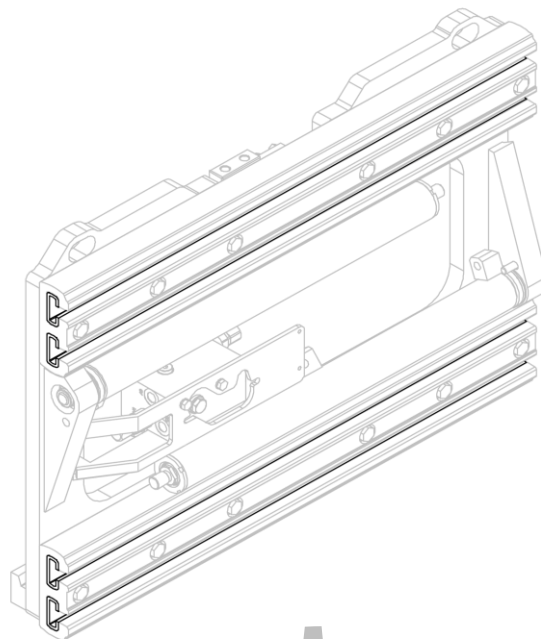
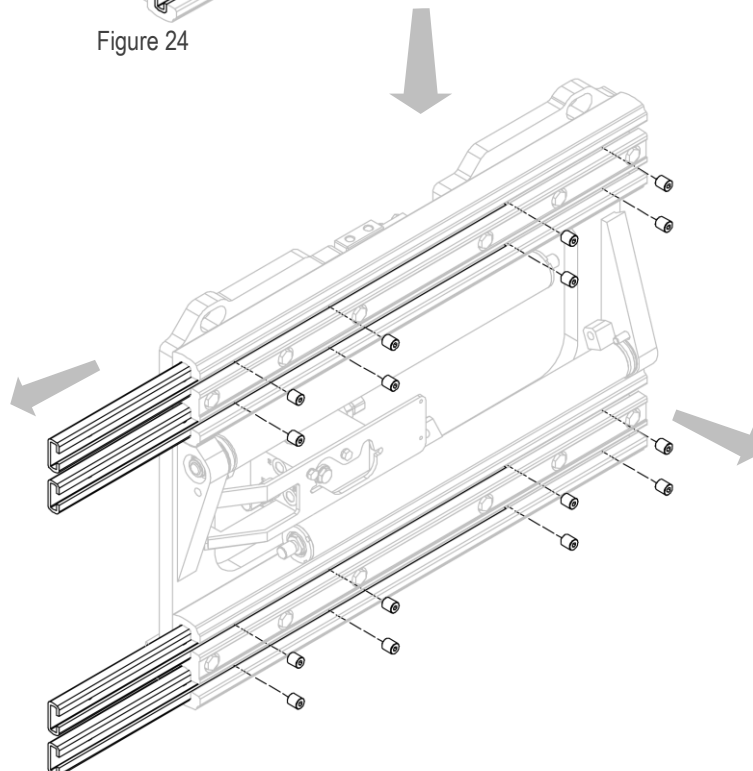

Figure 24
Figure 25
3. Remove the nylon bushes after unscrewing the corresponding grub screws (see *Figure 24* and *Figure 25*).